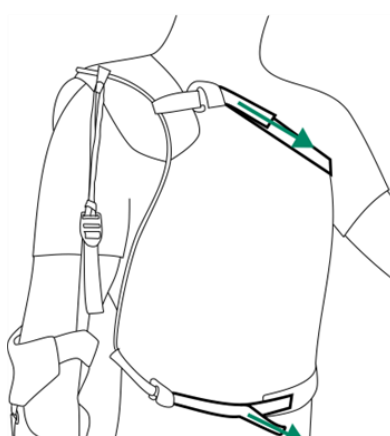

Figure 12
6. Pull on the loose end of the torso straps, to ensure that the straps are tight and the brace stays in place (Fig. 12).